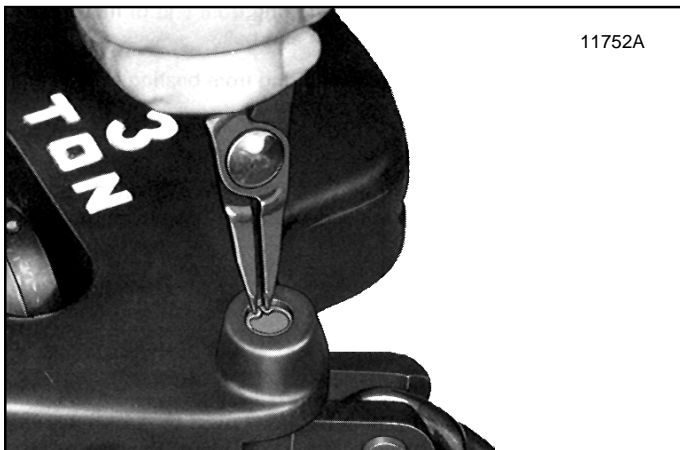
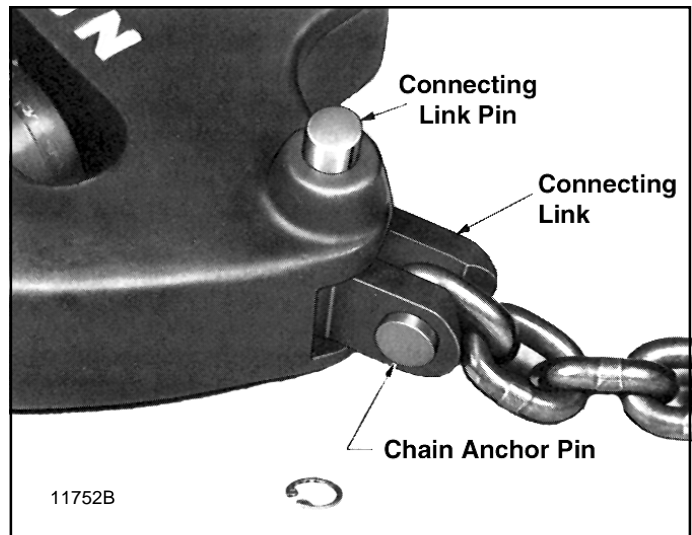

Figure 7-27. Removing Retaining Ring From Bore of Connecting Link Pin - Triple Reeved Lower Block Assembly
Figure 7-28. Removing Connecting Link Pin From Triple Reeved Lower Block Assembly
(1) Remove chain sprocket from lower block following procedure for double reeved models described in Paragraph 7-5.b.(1) above.
(2) To disconnect end of chain anchored to lower block, remove retaining ring from pin bore (Figure 7-27). Push connecting link pin from bore by pressing through hole provided in opposite side of block (Figure 7-28). Chain connecting link is now free and can be further disassembled for inspection.
(3) To remove hook from lower block body, first drive grooved pin from hook nut. Then hold nut from turning using drift punch and rotate hook to unscrew it from nut. Separate hook, shroud and thrust washer from body. Note that bearing surface of washer faces nut.
(4) To remove chain sprocket from upper suspension hanger, first remove hanger as outlined in Paragraph 7-2.a.(4). With hanger removed, push sprocket pin from hanger and sprocket. Note: Sprocket pin must be removed toward side having small anti-rotation pin slot in hanger.